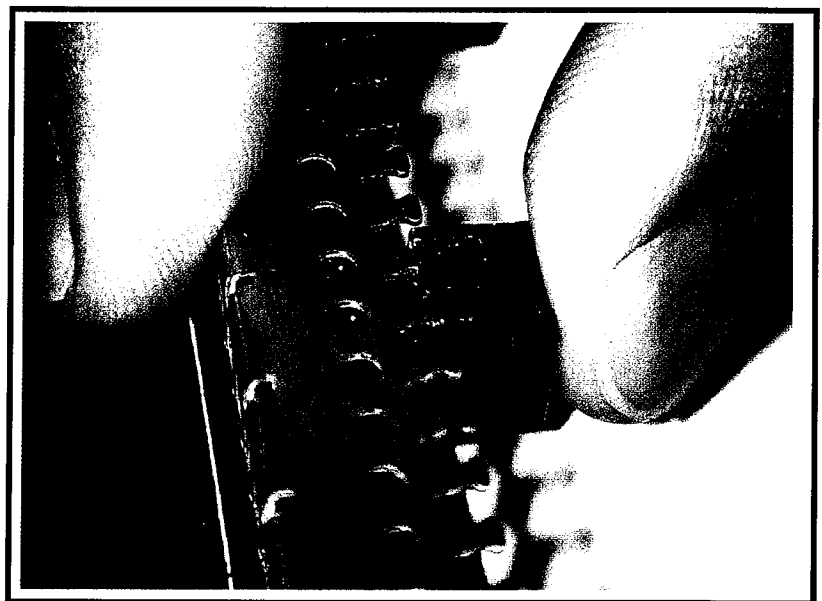

Fig. 2
2. Pre load into position by squeezing lightly with fingers. See Figure 2.